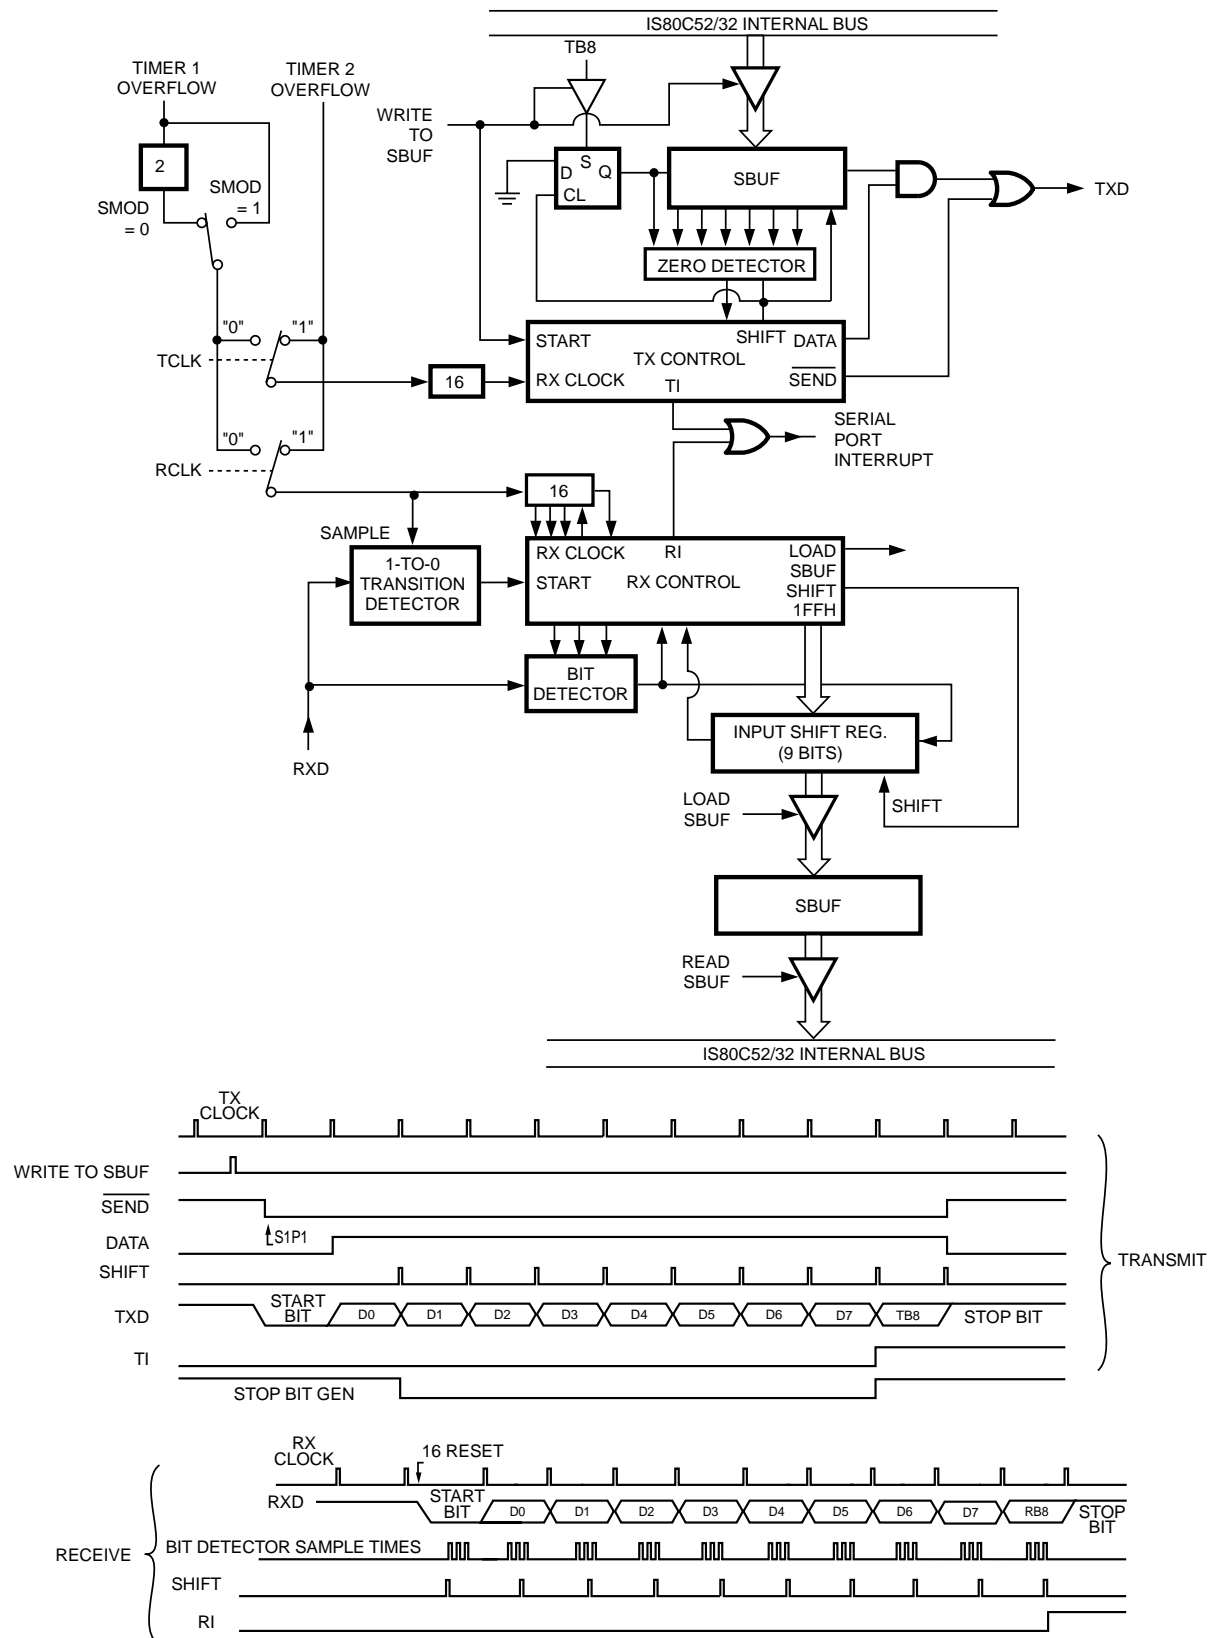

Figure 18. Serial Port Mode 3
Eleven bits are transmitted (through TXD) or received (through RXD): a start bit (0), eight data bits (LSB first), a programmable ninth data bit, and a stop bit (1). In fact, Mode 3 is the same as Mode 2 in all respects except the baud rate, which is variable in Mode 3 (see Figure 18).